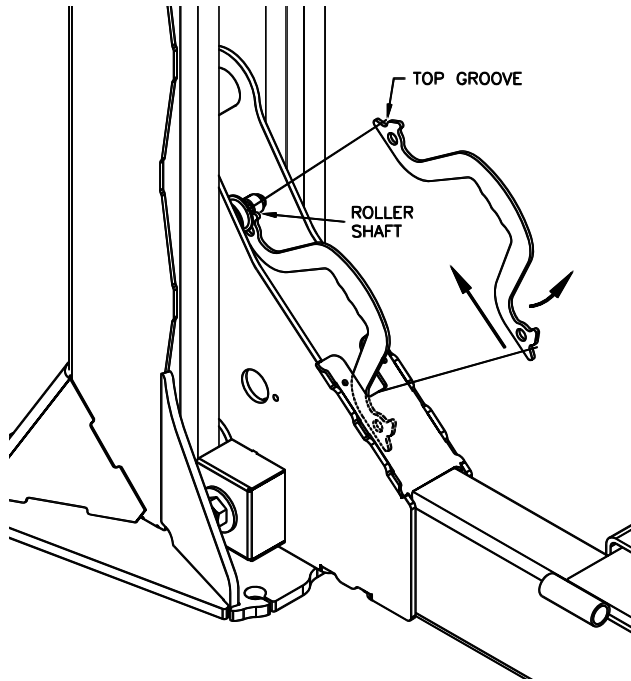

Fig 12 – Slack Cable Latch Disengaging Tool
- 28) Insert slack cable latch disengaging tool inside power side front cross beam and engage the groove at the top end of the tool with the latch roller shaft as shown in Fig 12. Push the slack lock latch back into the column while rotating the bottom of the tool upward and engage the bottom groove of the tool in the cross beam. This will allow the column to be moved into position without resistance from the slack lock.